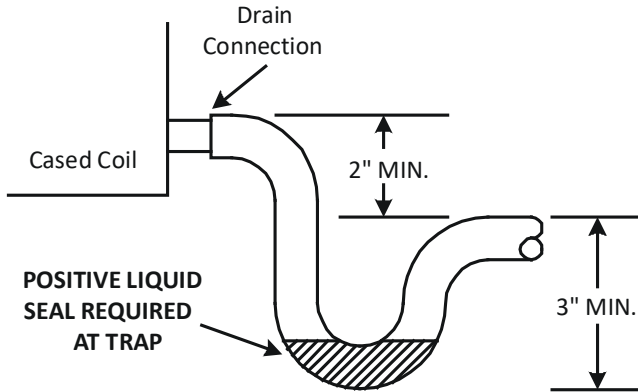

Figure 15
- The installation must include a “P” style trap that is located as close as is practical to the evaporator coil. See Figure 15 for details of a typical condensate line “P” trap.
NOTE: Units operating in high static pressure applications may require a deeper field constructed “P” style trap than is shown in Figure 15 to allow proper drainage and prevent condensate overflow.